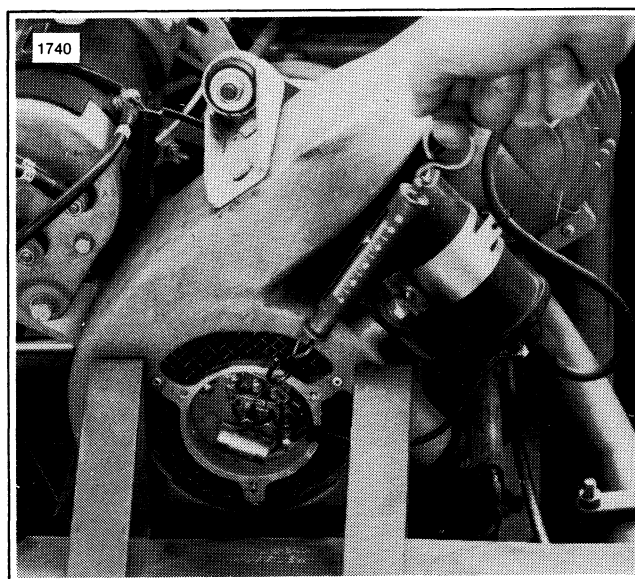

Figure 8-18. Breaker Points — Spring Retension
2. Place a .022 in. wire gauge between breaker point contacts (8). If a slight drag is noted when the wire is passed between the points, no adjustment is required. When adjustment is required, loosen lock screw and washer (10) and use screwdriver on adjustment slot (9) to move adjustable point a slight amount to obtain the correct point gap.
3. When adjustment is completed, tighten the screw and washer (10). Recheck the gap and correct if necessary.
4. See Figure 8-18. Circuit breaker points should be removed, if breaker point pressure is not within prescribed limits of 14 to 18 oz. Check pressure with a spring gauge. The scale should be hooked to the breaker lever at an angle of 90° with the point surface and reading taken just as points break. Excessive pressure causes rapid fiber block wear, cam and breaker point wear, while insufficient pressure will permit high speed point bounce which will, in turn, cause arcing and burning of the points and missing of the engine. Point faces must seat squarely against each other. If not, square up by bending stationary and/or movable point.